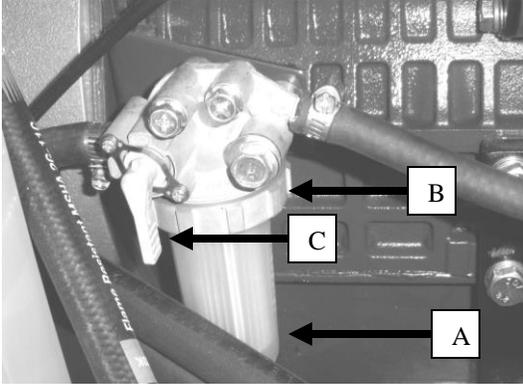

Figure 1—Fuel filter assembly.
If replacing the fuel filter, always fill the filter bowl (A, **Figure 1**) with clean fuel prior to installing the bowl. Also make sure the O-ring is properly seated on the bowl and that the bowl retaining ring is tightened securely.
2. Rotate the fuel valve (C, **Figure 1**) to the on position.